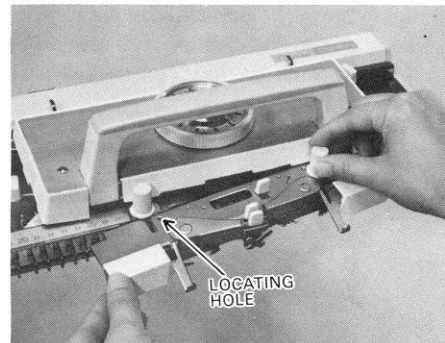

Fig.12
7. Loosen the yarn feeder plate securing nuts then slide the yarn feeder plate into position, being sure that the two locating holes on the feeder plate are placed directly over the two small protrusions, then tighten the securing nuts firmly. (Fig.12)